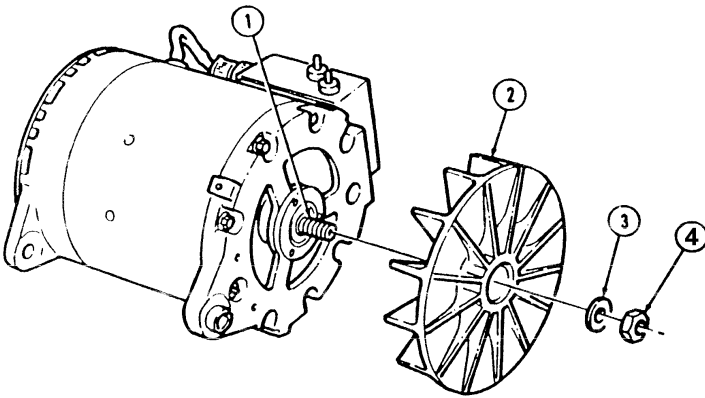

FIGURE 3-46
- (28) Install fan(2) on core and shaft assembly (1) and secure with washer (3) and locknut (4). (see figure 3-46)
- (29) Secure core and shaft assembly (1) on a soft-jawed vise. (see figure 3-46) Tighten locknut (4) to 50 lb-ft (68 N●m).